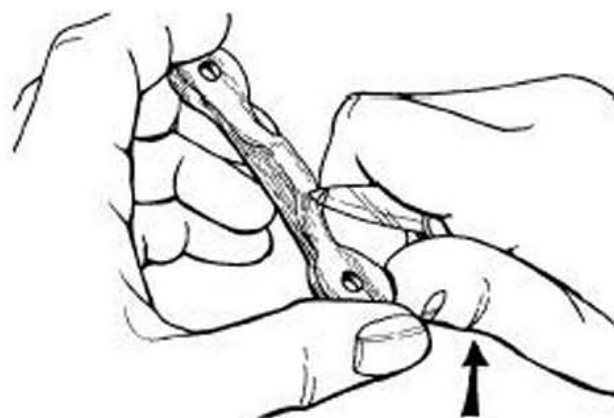

FIGURE 24-7
- 4** Once satisfied with the shape and size of the rods, use a knife to whittle the ends down to about half their thicknesses so the face of the pivot circle is smooth and flush. Work with a tight paring stroke from center to end, creating a nice, clean curve from the top face down (Figure 24-7).